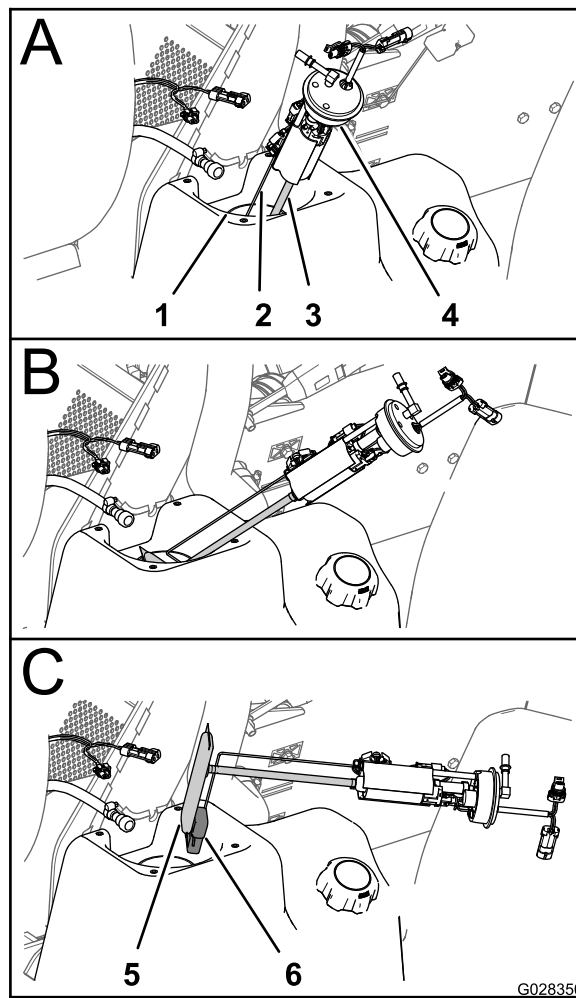
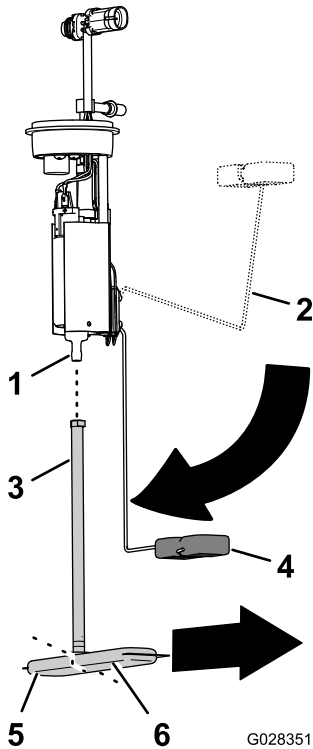

Figure 72
Figure 73
6. Carefully lift and rotate the fuel pump/sending unit out of the neck of the fuel tank (Figure 72).
1. Remove the pickup tube of the fuel filter from the fitting of the fuel pump (Figure 73).
2. Align the pickup tube of the new fuel filter with the fitting of the fuel pump (Figure 73).
3. Align the long leg of the fuel filter with float when the float arm is in the empty position (Figure 73).
4. Insert the fuel-pump fitting into the pickup tube until the fitting is fully seated (Figure 73).
1. Support the float arm and pickup tube together and slip the float and fuel filter into the opening in the fuel tank (Figure 72).
2. Seat the fuel pump/sending unit into the opening in the tank (Figure 72 and Figure 73).
3. Install the seal and nut over the fuel pump/sending and onto the neck of the fuel tank and tighten the nut hand tight (Figure 72).
4. Connect the coupling on the fuel hose to the fitting of the fuel pump (Figure 72).
5. Connect the 2-socket connector of the machine-wire harness to the 2-pin connector of the fuel pump/sending unit; Connect the 2-pin connector of the machine-wire harness to the 2-socket connector of the fuel pump/sending unit (Figure 72).